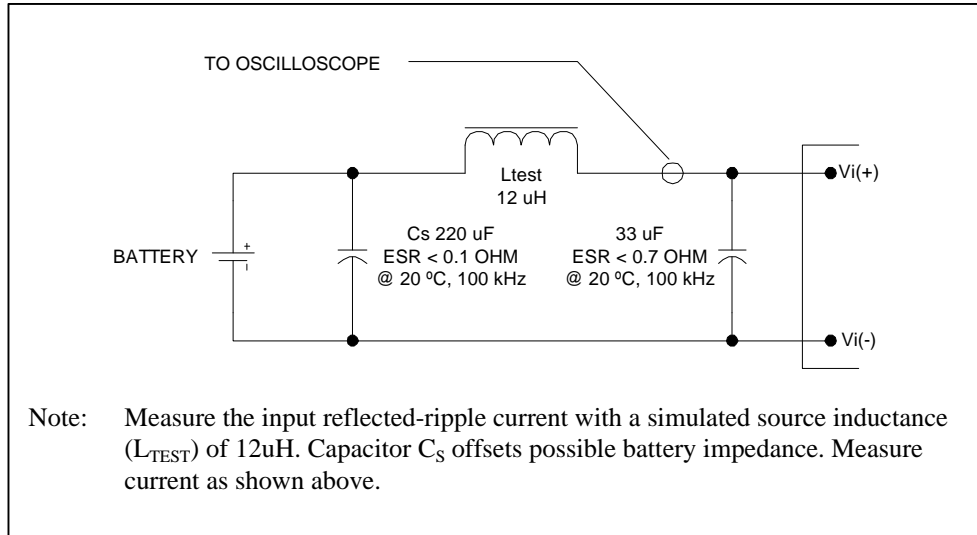

Figure 1. Input Reflected -Ripple Test Setup
2. See Figure 1 for the Input Reflected-Ripple Current Test Setup.